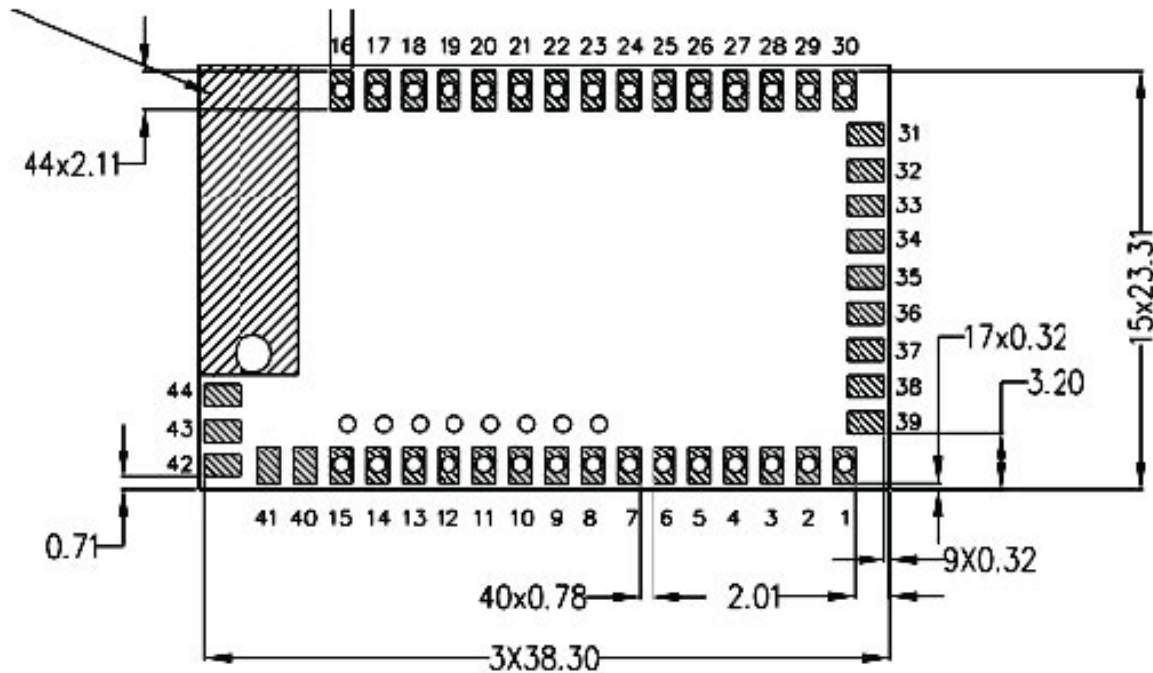

Figure 13 EMW3162 bottom view (Metric units)
- Sealed packaging is equipped with humidity indicator card, as shown in Figure 13.